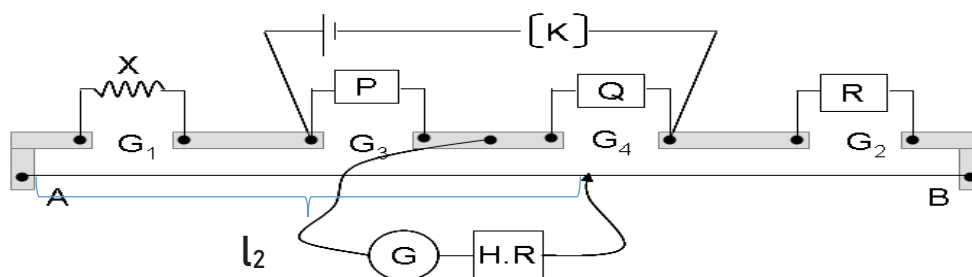

Fig 3 – Unknown resistance X in the left gap
a) Instead of copper strip, the coil of unknown resistance of length l is connected in gap  $G_1$  (refer Fig 3)